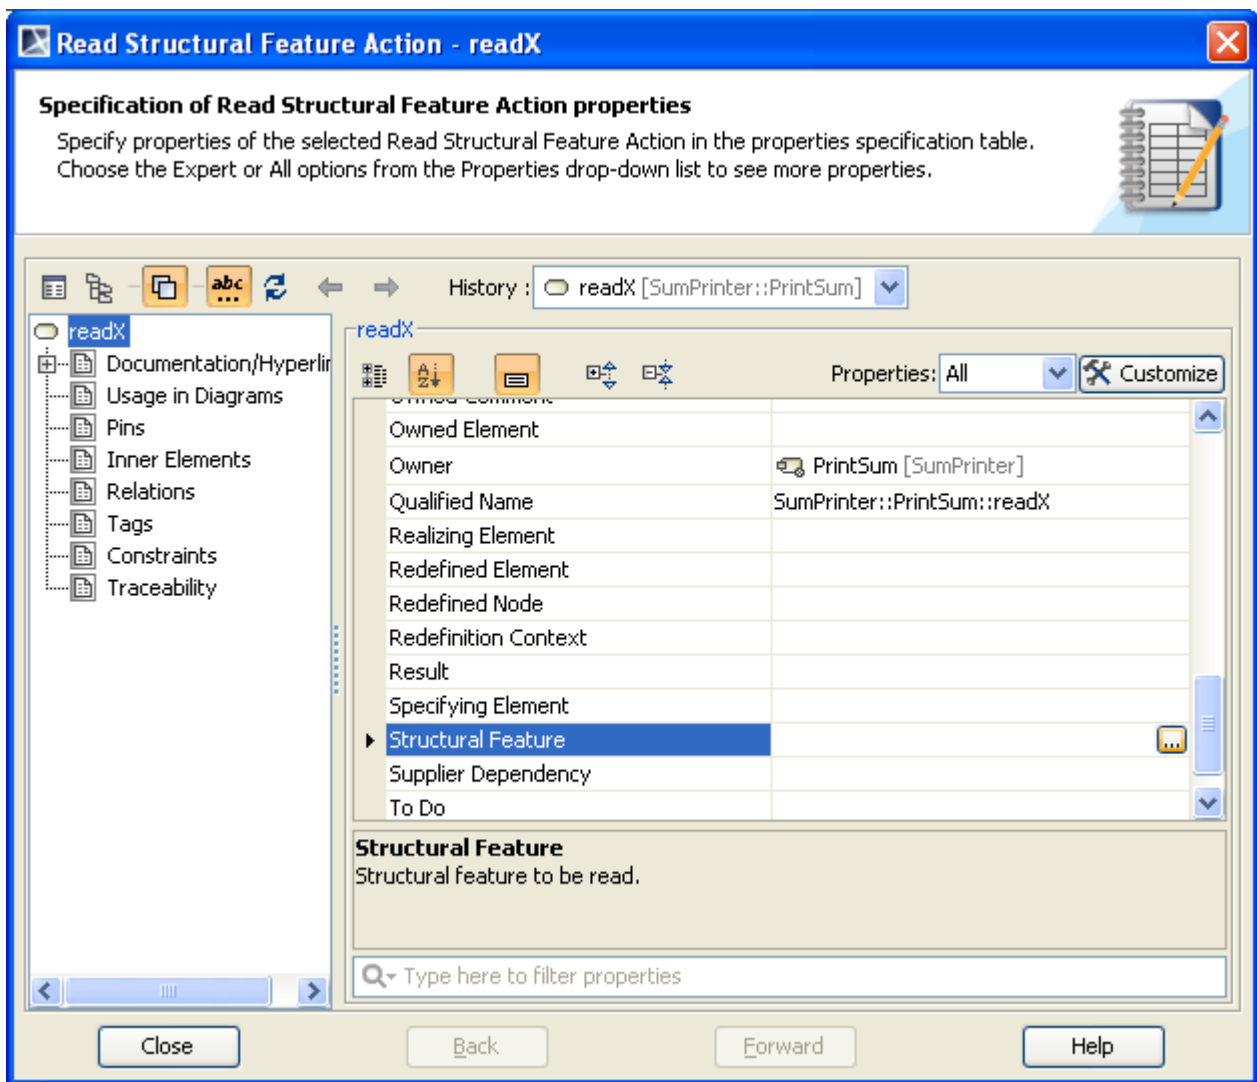

Figure 58 -- The Specification Dialog of readX ReadStructuralFeatureAction
- Open the **Specification** diagram of the **readX** action (Figure 58).